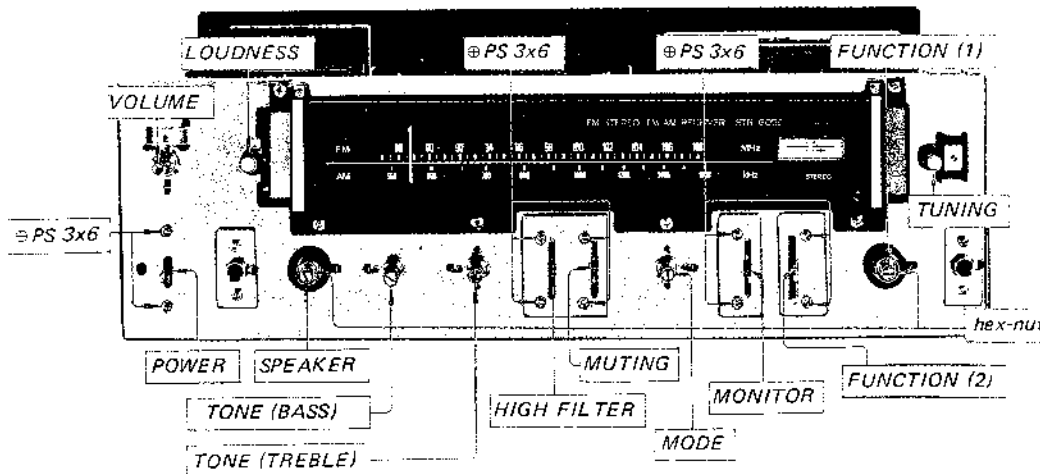

Fig. 2-15. Control and switch replacement
Prepare for replacing any of the controls or switches by removing the top cover and the front panel as described in Procedures 2-3 and 2-4. Refer to Fig. 2-15.
1. Remove the two screws (ØPS 3x6) securing switches to the front subchassis as shown in Fig. 2-15.
2. Remove the hex nuts that secure the switches to the front-subchassis as shown in Fig. 2-15.